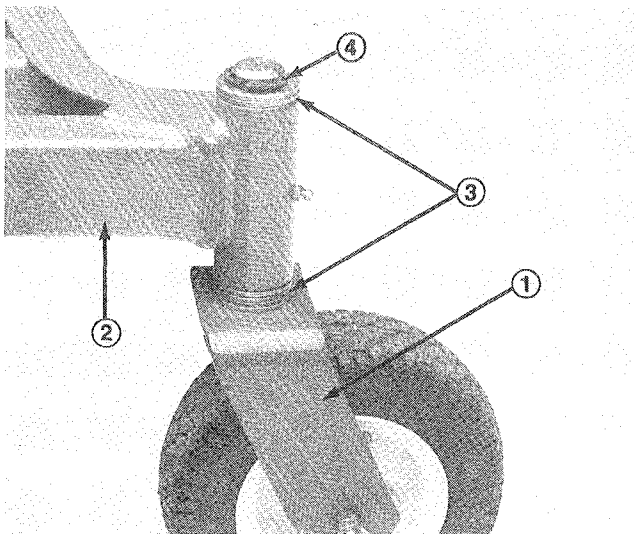

Figure 1
2. Place two thrust washers on each castor wheel shaft (Fig. 1).
3. Insert shafts into carrier frame. Install two more thrust washers and secure with klip rings (Fig. 1).